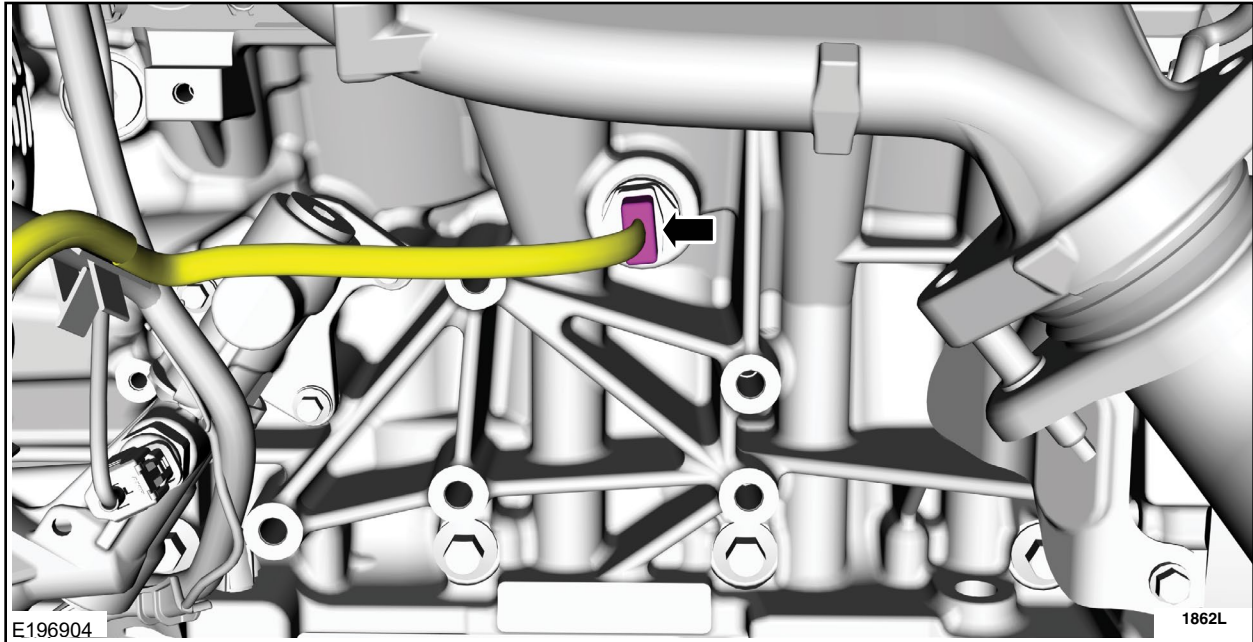

FIGURE 6
2. Disconnect the block heater electrical connector. See Figure 6.
7. Connect the *new* wire assembly to the block heater element. See Figure 6.